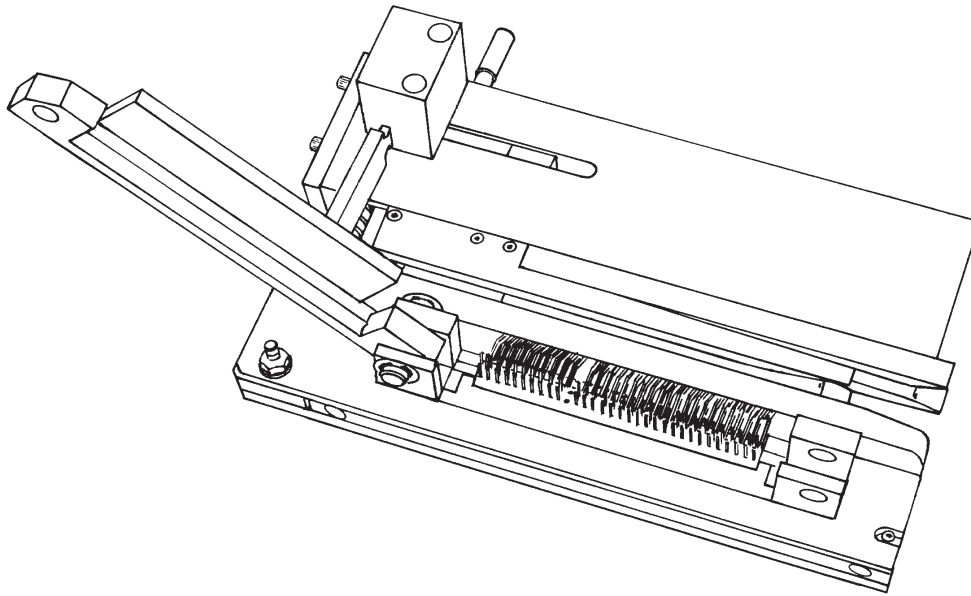

Figure 13
c. Changing the number of positions of a given connector in the first (lead) connector module (shown in Figure 13) is similar to the procedures described for modules 2, 3, and 4. However, some differences in procedure must be observed.